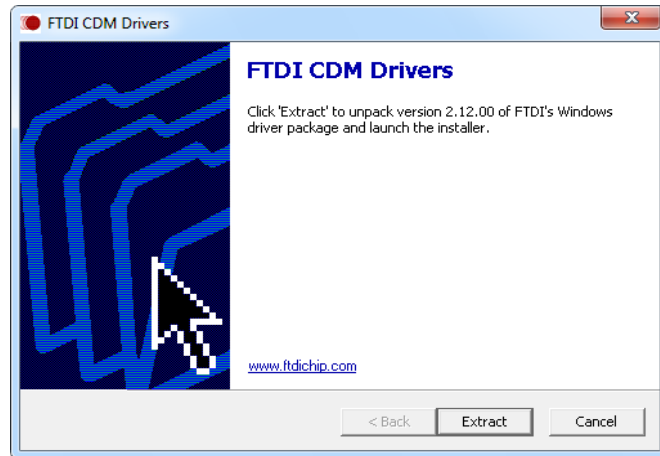

Fig. 5-6 Extracting the FTDI CDM driver
3. Click on **Extract** (Fig. 5-6, page 33).